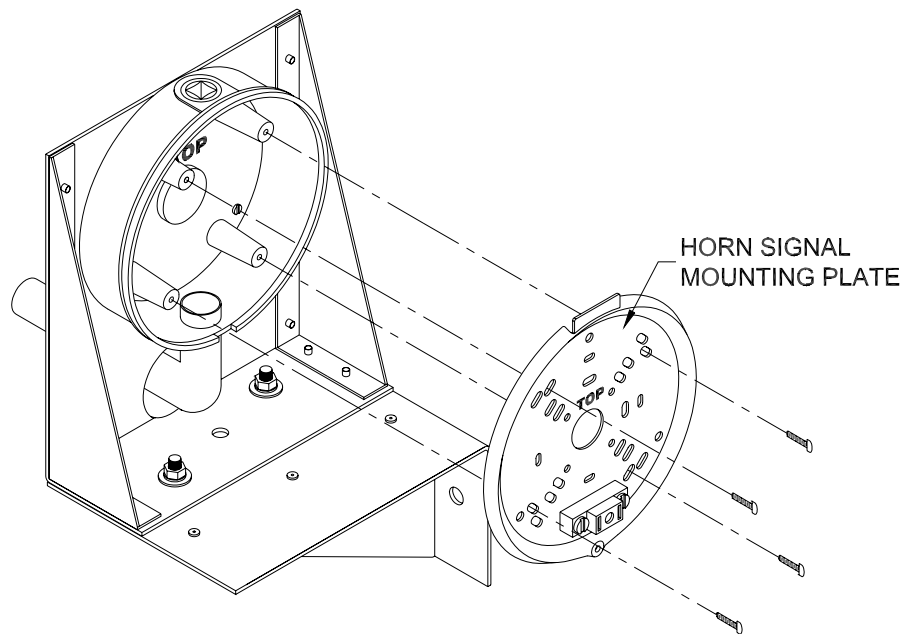

Figure 11 Horn Signal Mounting Plate Attachment
13. Align the horn signal mounting plate with the back box so that the word "TOP" on the horn signal mounting plate and the back box should be oriented in the same direction and the screw hole on the bottom edge of the horn signal mounting plate should be directly over the gap in the back box gasket as seen in figure 11.